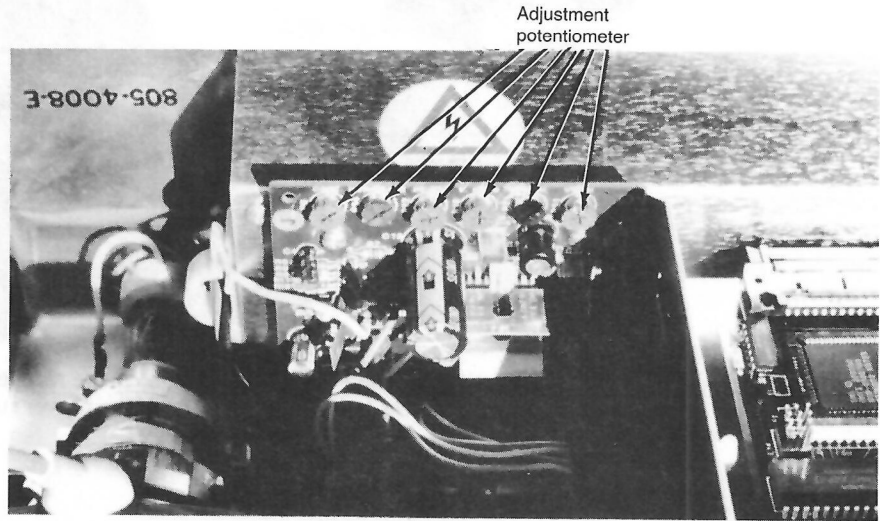

Figure 13-34 The CONT., HOR. PHASE, HEIGHT, V. HOLD, WIDTH, and V. LIN adjustments are at the top of the video board.
15. Locate the six adjustment potentiometers labeled "CONT.," "HOR. PHASE," "HEIGHT," "V. HOLD," "WIDTH," and "V. LIN" which are at the top of the video board. As shown in Figure 13-34, these adjustments have been sealed at the factory and will have to be unsealed and readjusted for use with the screen kit.